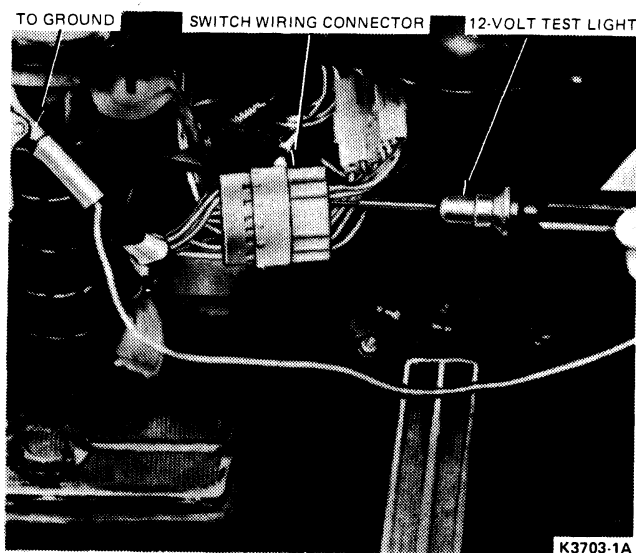

FIG. 3 Turn Signal Switch Power Test
2. Connect 12-volt test light to a good ground (Fig. 3).
3. Contact probe of test light to the wire connection at the switch (blue wire, circuit No. 44) as shown Fig. 3. If test light illuminates, power flow to switch is good. If test light does not illuminate, power flow is disrupted between turn signal flasher and switch. Feed circuit No. 44 (blue wire), or flasher must be repaired.